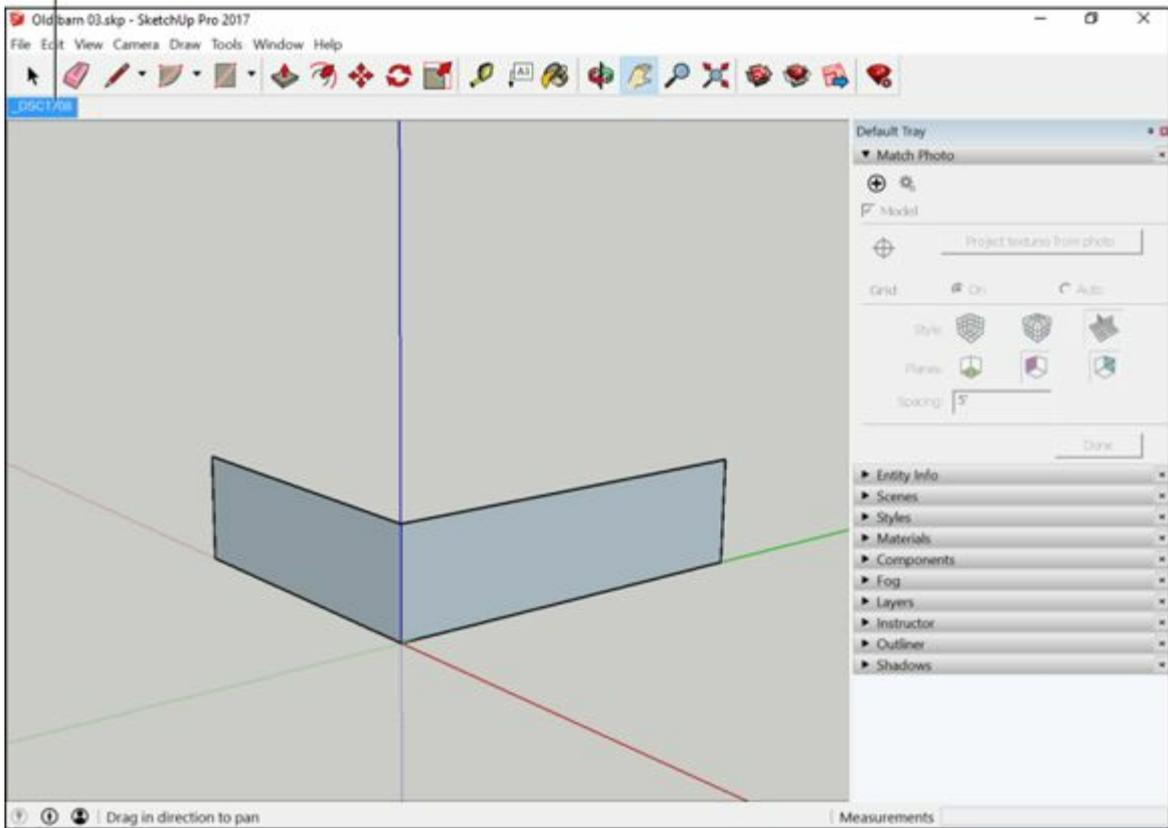

FIGURE 8-15: When you orbit, your photo disappears. Click the scene tab to see the image again.
- *To start, be careful not to orbit while you draw.* You can zoom and pan all you want, though. If you orbit away from the vantage point you set up, your photograph will disappear, and you see only the geometry you've drawn, as shown in Figure 8-15. You can easily get back by clicking the scene tab for your matched photo. The tab is labeled with the name of your photo at the top of your modeling window.